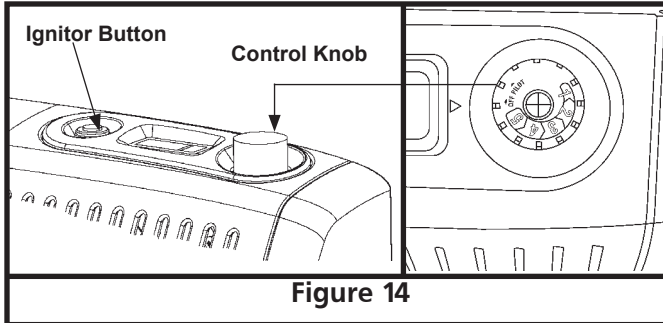

Figure 14
3. Make sure the control knob is in the OFF position, then push in gas control knob in the OFF position (see figure 14).